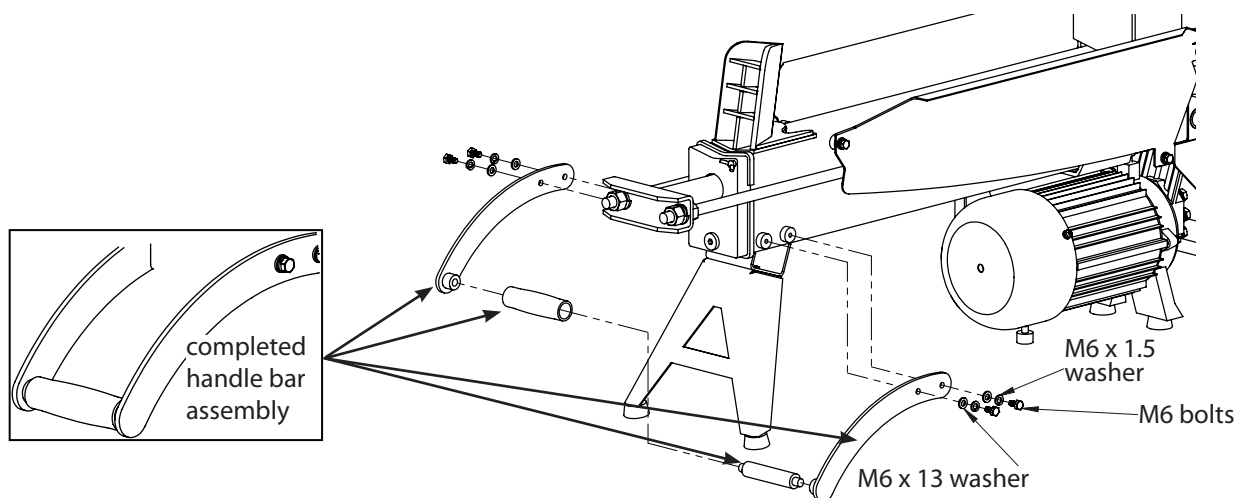

Figure 4
4. Assemble the handle bars by attaching the completed handle bar assembly to the log splitter beam using the M6 x 12 bolts, the M6 x 1.5 washer, and the M6 x 13 x 1.75 washers provided. **(SEE FIGURE 4)**